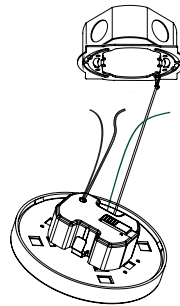

fig. 2
3. Attach the safety cable clip to one of the holes in the mounting bracket, allowing fixture to hang securely. (fig. 2).